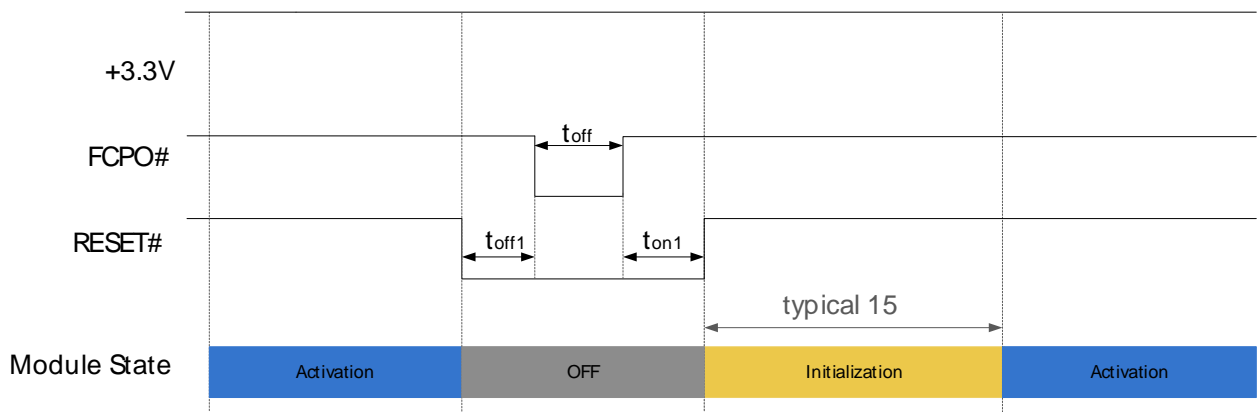

Figure 11. Reset timing 2nd
- Reset timing 2nd in Figure 11, PMU of module internal will be off in reset sequence, recommend using in system warm boot.